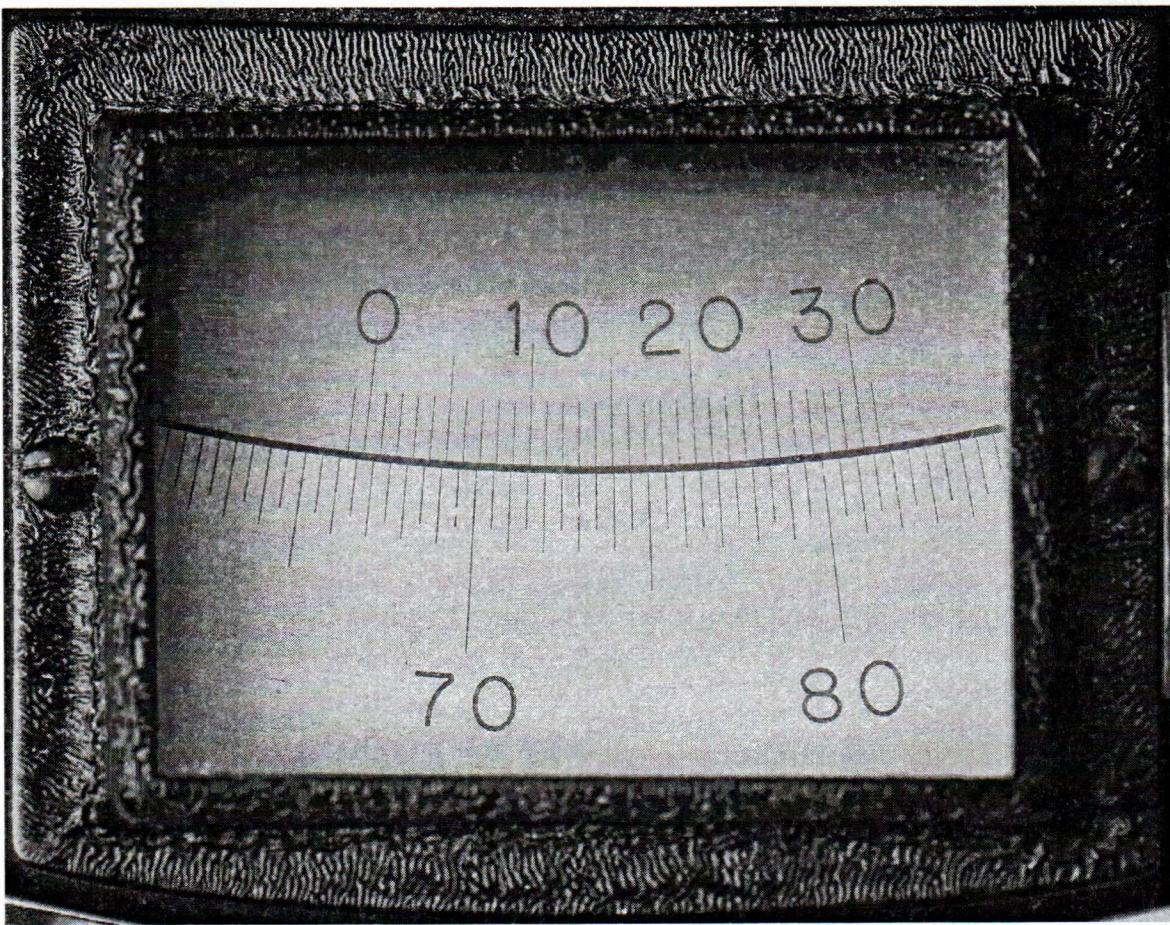

Figure 12.3 The Vernier scale of the Divided Circle on the spectrometer. This reads $66.5^\circ + 14'$ or 66.73° .
12.3.2 Reading the Vernier scale displayed on the spectrometer requires patience and decent near-vision. Use and move the magnifier attached to aid your readings. Figure 12.3 displays one of the divided circle windows on the spectrometer. The bottom of the scale is in degrees and the top is in minutes of arc. The first step allows the reader to get to 0.5° precision: locate the “0” mark on the top scale and read off the numbers it falls between on the bottom scale. In figure 12.3, the 0 mark falls between 66.5° and 67.0° . The lower of the two marks is noted. In the next step, the reader looks at the divisions on the top and bottom scales and finds the location where they most closely align. The minute marking where this alignment occurs is the amount of minutes to be added to the degrees noted in the first step. In figure 12.3, the divisions align at the $14'$ mark so the angle is $66.5^\circ + 14'$ or $66.5^\circ + 14' \left(\frac{1^\circ}{60'}\right) = 66.5^\circ + 0.23^\circ = 66.73^\circ$.